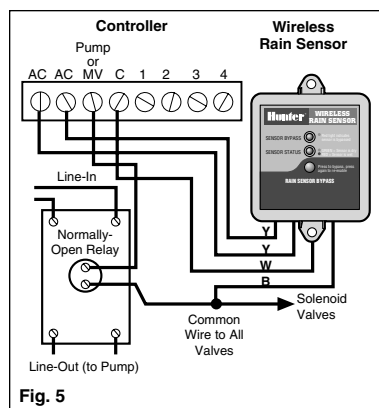

Fig. 5
C. 24 Volt Solenoid Valves with Booster Pump (See Fig. 5)